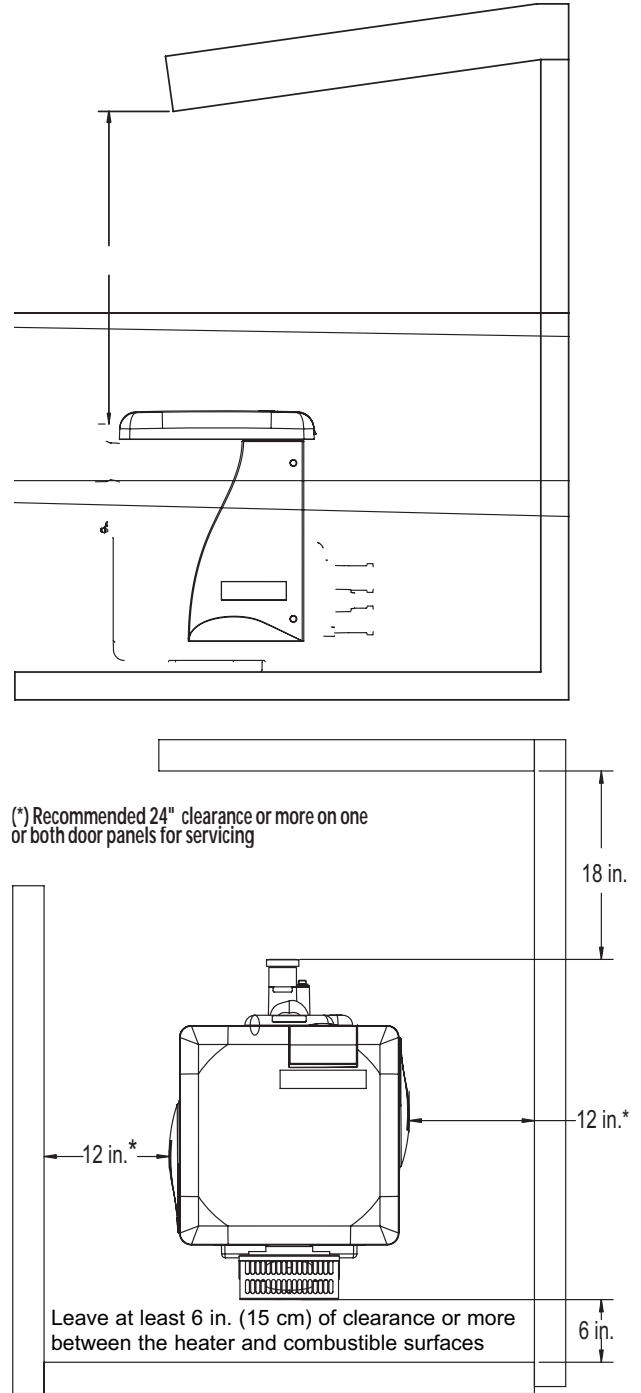

FIGURE 8: Combustible clearances
**In the U.S.:** If the heater is located under a roof or deck overhang, there must be at least three feet (1M) of clearance between the bottom of the overhang and the top of the heater exhaust vent. If the heater is under a roof or deck overhang, the space around the heater must be open on three sides. See Figure 8 for minimum clearances.
**In Canada:** If the heater is located under a roof or deck overhang, there must be at least three feet (1M) of clearance between the bottom of the overhang and the top of the heater exhaust vent. If the heater is under a roof or deck overhang, the space around the heater must be open on three sides. See Figure 8 for minimum clearances.